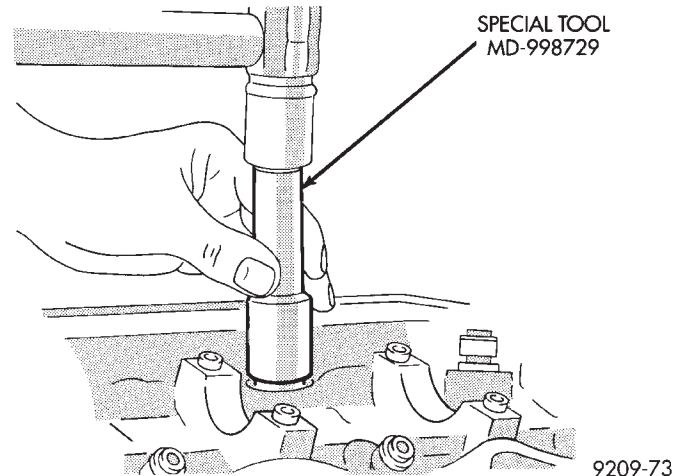

Fig. 24 Install Valve Stem Seals
(2) Using suitable tool install seal by tapping lightly until seal is in place. (Fig. 24).